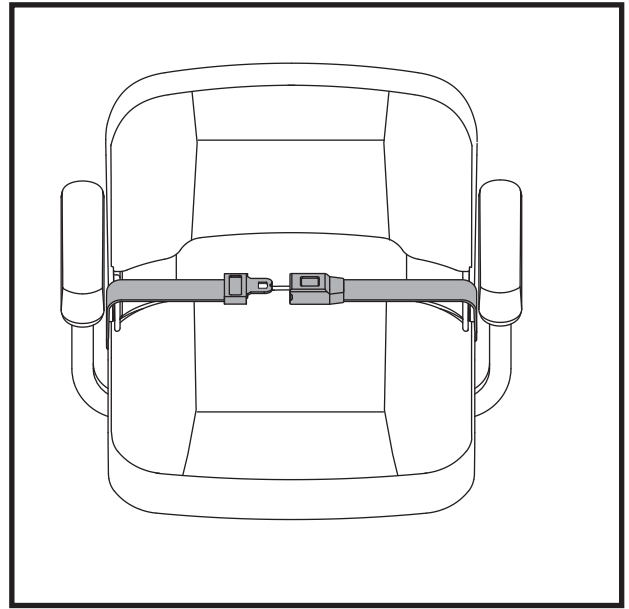

Figure 18. Positioning Belt - Metal Tab Style
1. Insert the metal tab on the right side of the belt into the plastic housing on the opposite strap until you hear a “click.” See figure 18.